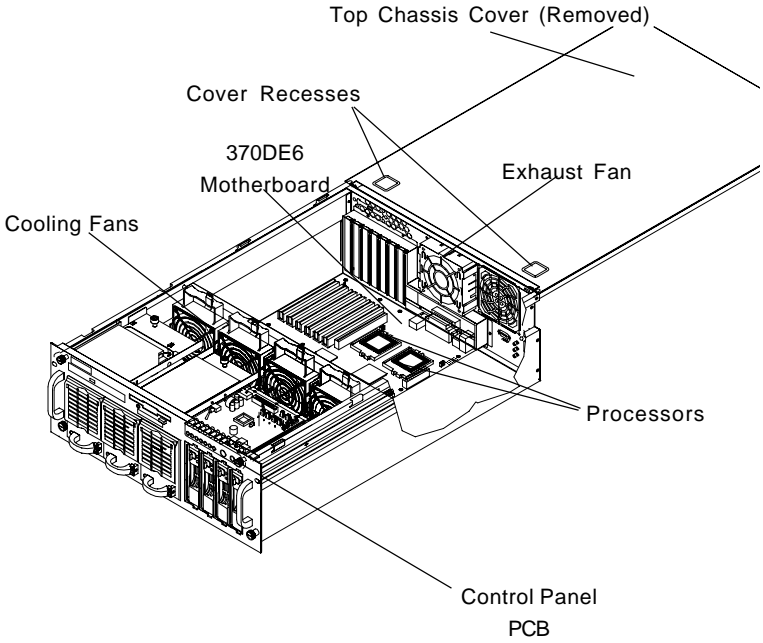

Figure 2-5. Accessing the Inside of the SuperServer 6040
1. Accessing the inside of the 6040 (see Figure 2-5):